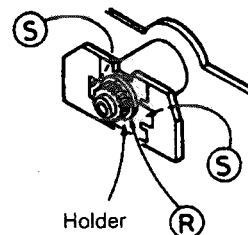

Fig. 2-23
■ Head replacement (See Fig. 2-23)
1. Remove the head gear (R).
2. Remove the pawls (S) on both sides of the holder.